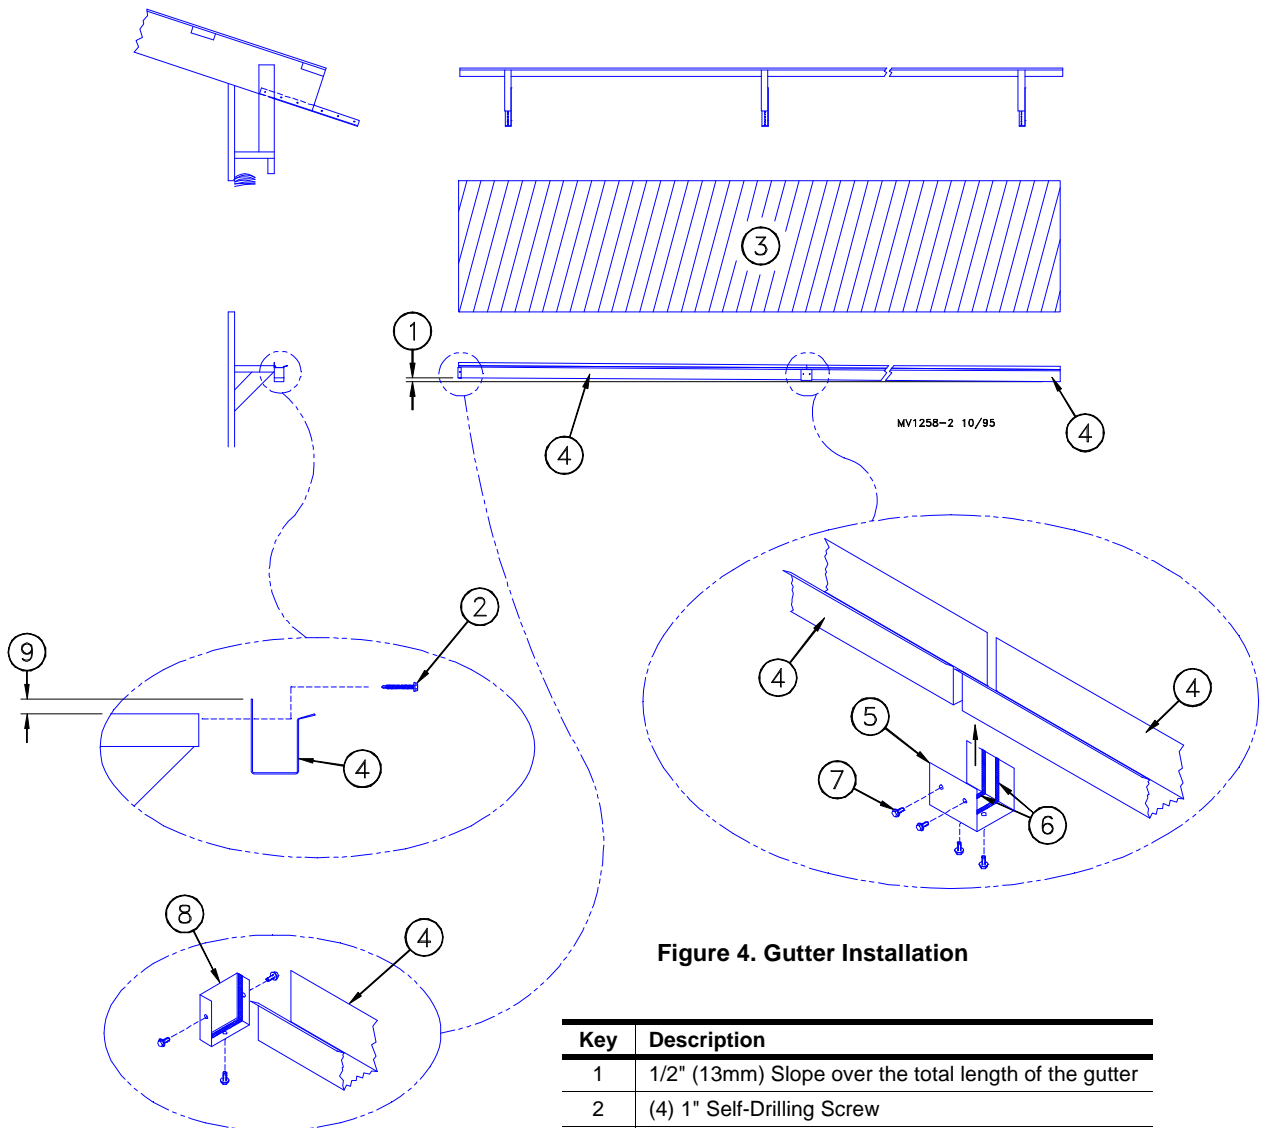

Figure 4. Gutter Installation
The Gutter sections are secured together using a Gutter Coupler. Apply caulk to the both sides and the bottom of the Gutter Couplers. Use a Gutter Coupler and (4) 1/2" Self-Drilling Screws to secure the Gutter sections together. **See Figure 4.**